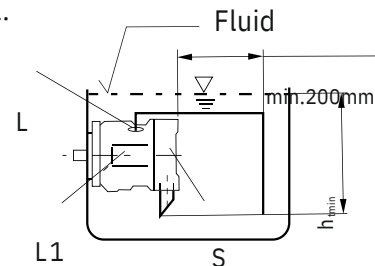
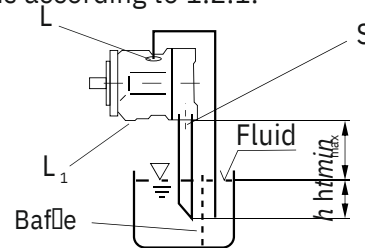

Fig.3
Fig.4
2.1. Arrangement in the reservoir a) If the minimum fluid level is above the top of the pump, port "L" closed, "L" and "S" should remain open, L piped 1 and recommendation S piped (see Fig.3) b) If the minimum fluid level is equal to or below the top of the pump, pipe ports "L" and possibly "S" as Fig.4.; close port "L". 1 The conditions according to item 1.2.1.
a) When mounting above the reservoir, see fig.4. Conditions according to 1.2.1.